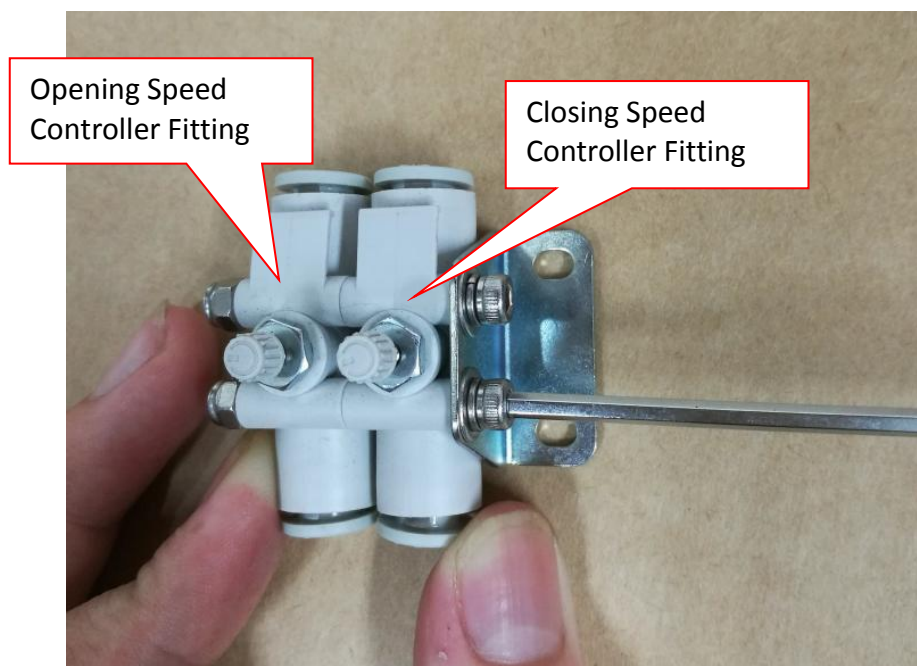

Figure 8 Speed Controller Fitting Removal
16. Remove 2 x Screws & Defective Speed Controller Fitting as shown in Figure 8